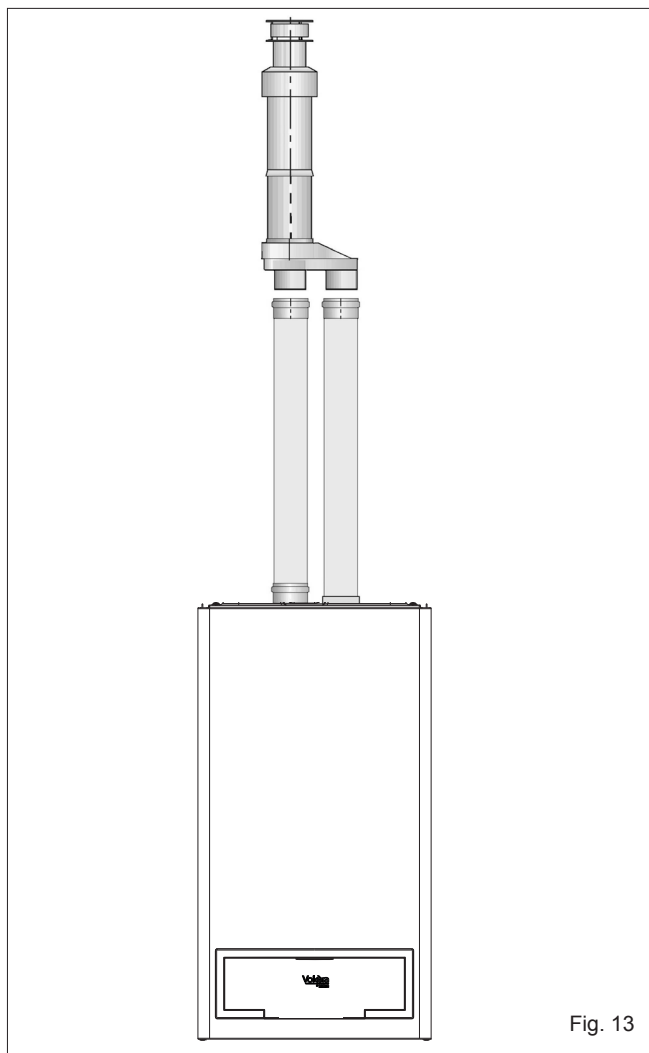

Fig. 13
4.5.3.3 VERTICAL TERMINATION (fig. 13)